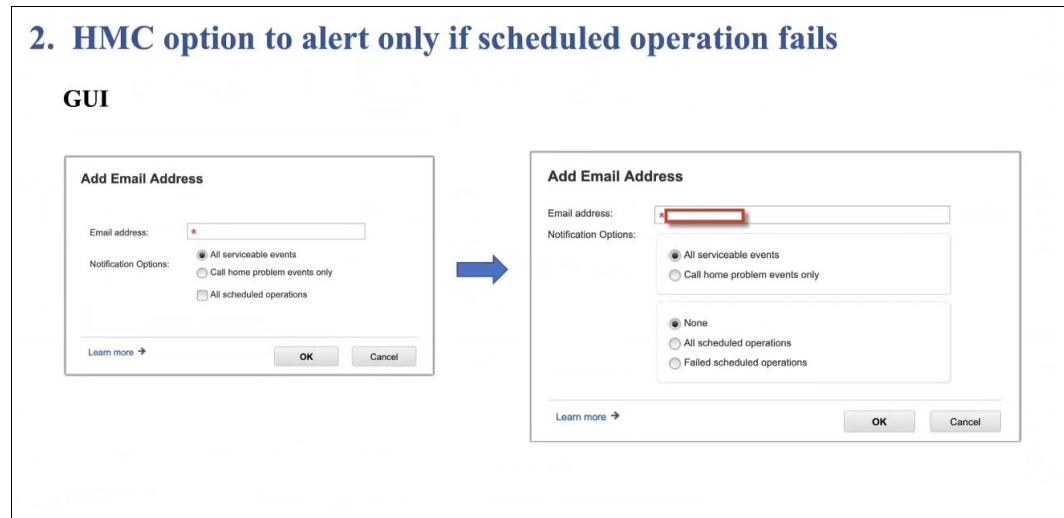

Figure 1-11 HMC alert feature
- Scheduled operation function: In the ESA, there is a new feature that allows customers to receive message alerts only if scheduled operations fail (see Figure 1-11).